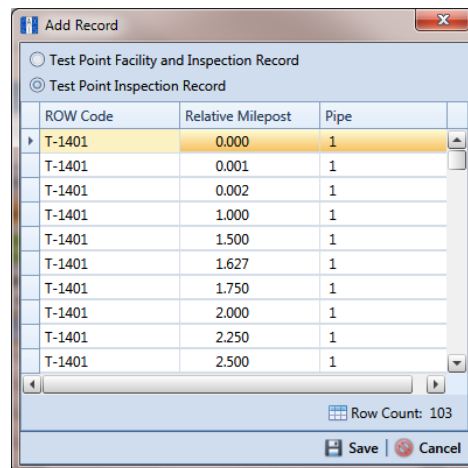

Figure 7-13. Add Record
- 5 Click **+** **Add** to open the *Add Record* dialog box (Figure 7-13, page 223). Then continue with one of the following steps:
- b Select a pipeline with the facility you want to add an inspection record. For example, pipeline *T-1401* and the facility at *Relative Milepost 0.000* are selected in the next figure (Figure 7-13, page 223).